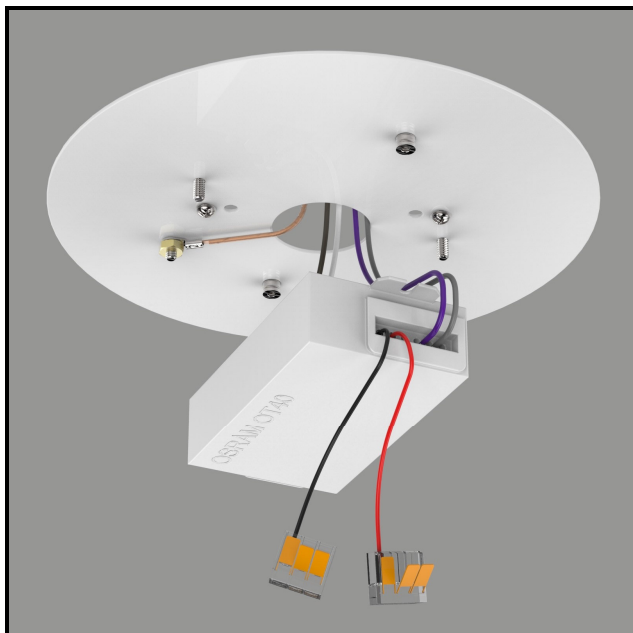

Figure 5
- Make main wire connections using included orange twist-on connectors. (Figure 5)
- Carefully feed the wiring connections through the hole in the mounting disk. (Figure 5)